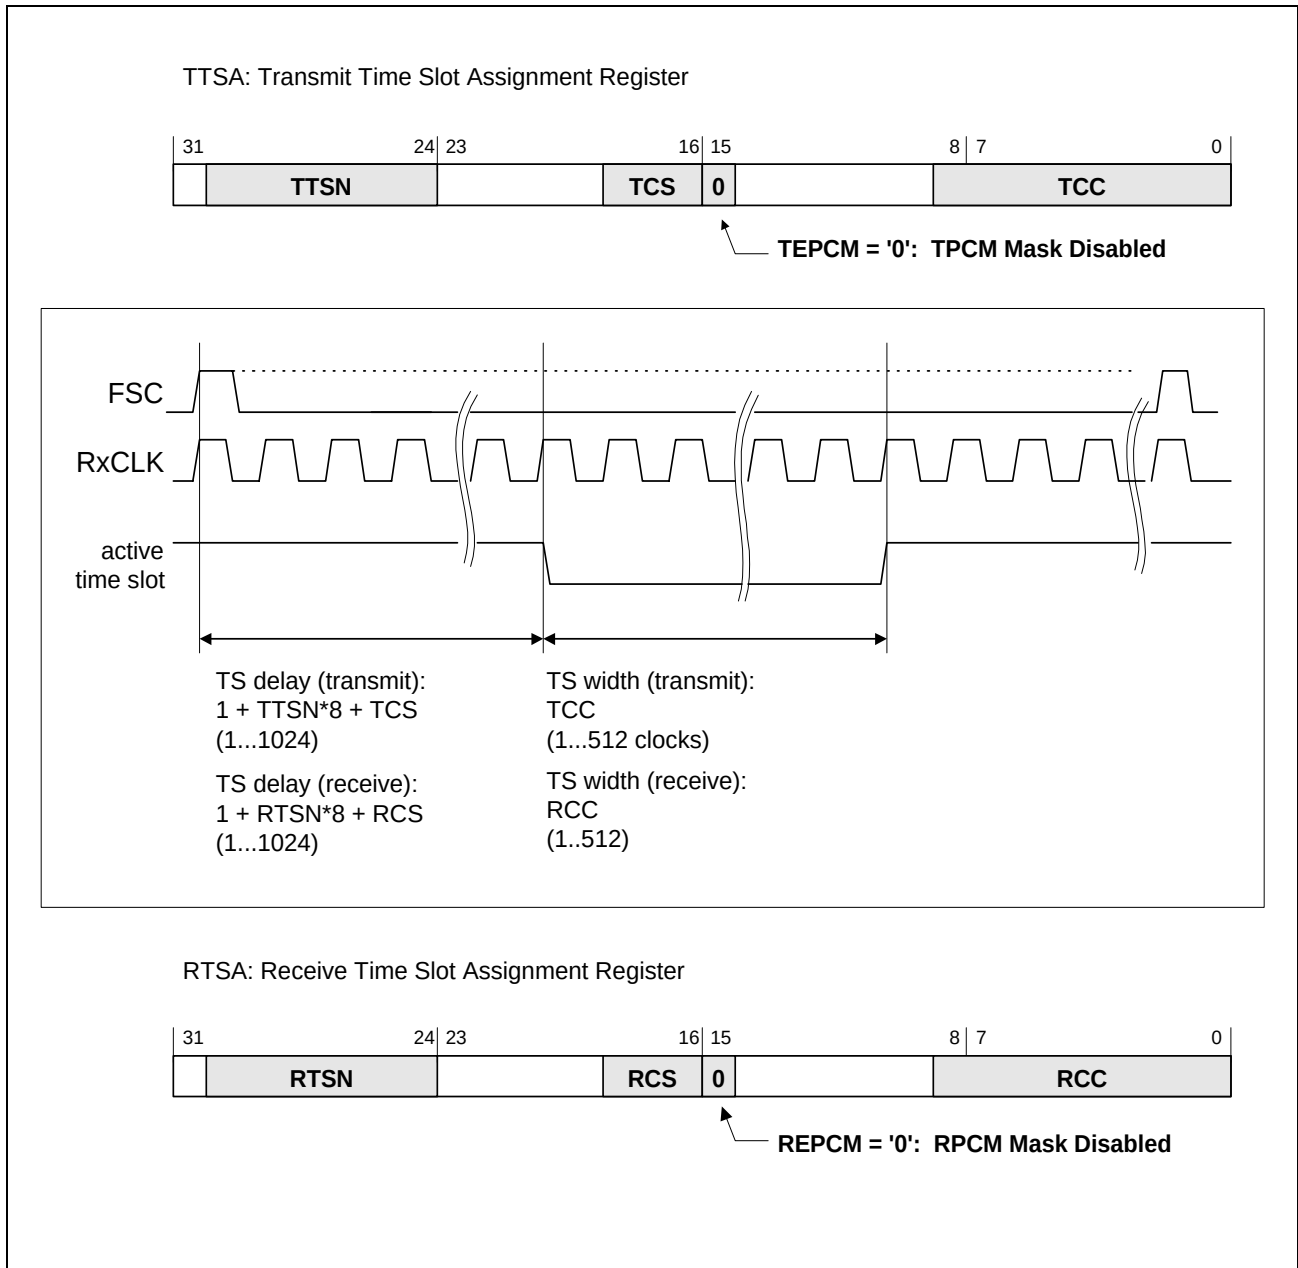
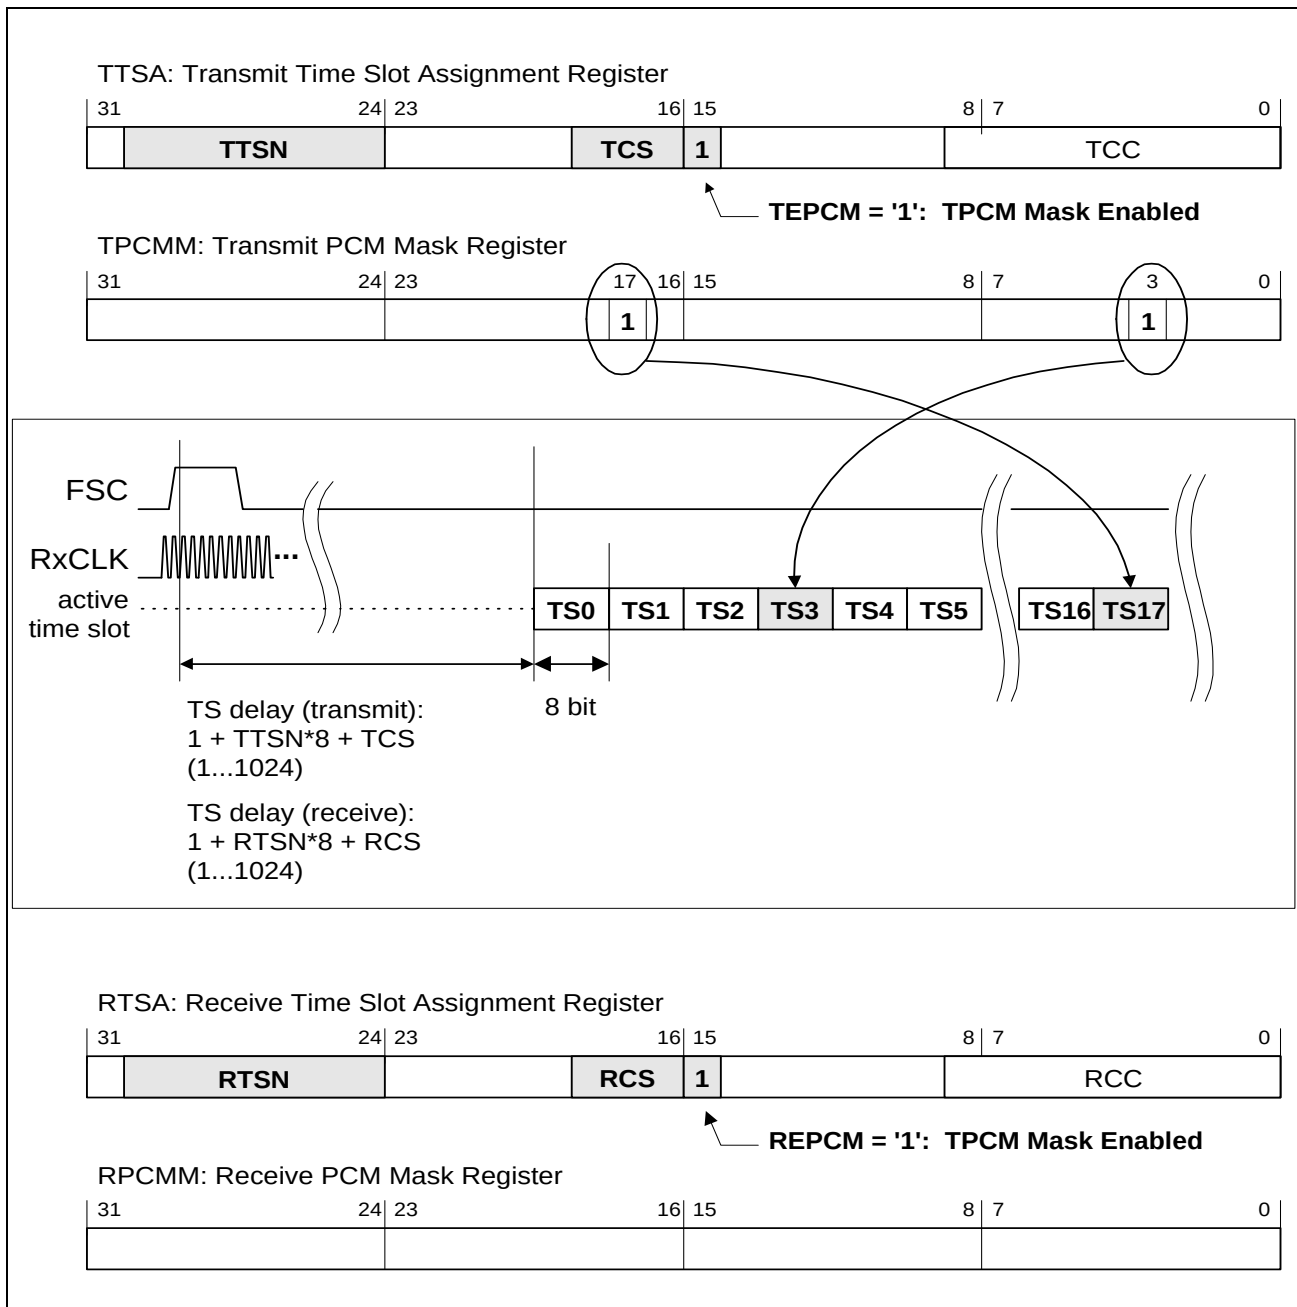

**Figure 47**     **Selecting one time-slot of programmable delay and width**
**Figure 48 Selecting one or more time-slots of 8-bit width**
**Figure 47** shows how to select a time-slot of programmable width and location and **Figure 48** shows how to select one or more time-slots of 8-bit width.